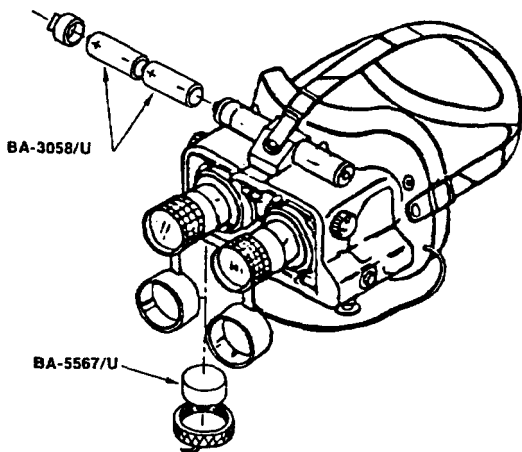

Figure 3-4. Battery Installation (AN/PVS-5B Shown).
d. Remove BA-5567/U lithium battery cap or BA-3058/U alkaline battery cap(s). Insert BA-5567/U lithium battery with recessed (+) side in first. Insert alkaline batteries with flat (-) end in first (fig. 3-4).